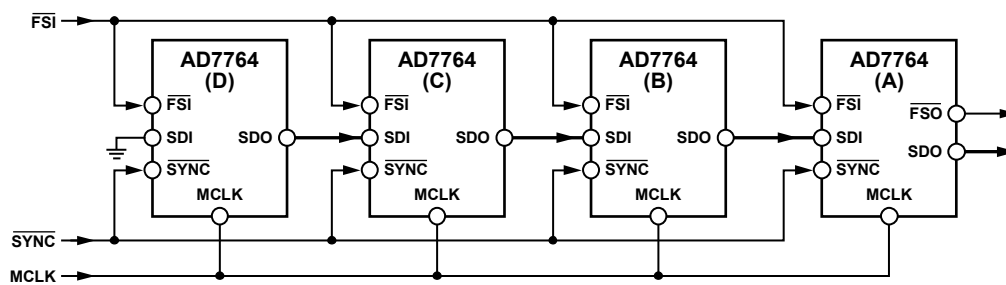

Figure 40. Daisy-Chaining Four Devices in Decimate 128× Mode Using a 40 MHz MCLK Signal
The block diagram in Figure 40 shows how to connect devices to achieve daisy-chain functionality. Figure 40 shows four AD7764 devices daisy-chained together with a common MCLK signal applied. This can only work in decimate 128× or 256× modes.
Referring to Figure 40, note that the SDO line of AD7764 (A) provides the output data from the chain of AD7764 converters. Also, note that for the last device in the chain, AD7764 (D), the SDI pin is connected to ground. All of the devices in the chain must use common MCLK and SYNC signals.
(for Daisy-Chain Configuration Shown in Figure 40)